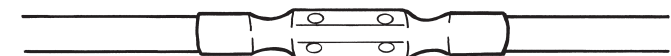

Figure 3
9. Properly installed, shrink tubing will be smooth and conform to the cable. Adhesive should be visible at each end of the shrink tubing. See Figure 3.